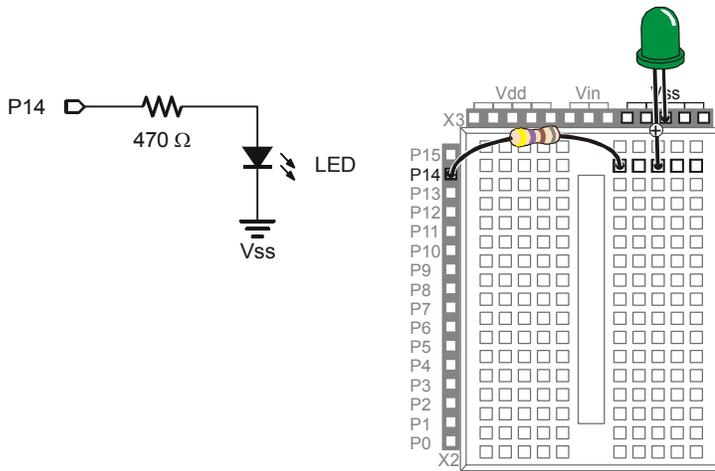

Figure 2-12
The LED circuit shown in Figure 2-12 is wired almost the same as the circuit in the previous exercise. The difference is that the resistor's lead that was manually switched between Vdd and Vss is now plugged into a BASIC Stamp I/O pin.
- √ Modify the circuit you were working with in Activity #1 so that it matches Figure 2-12.
Use the example circuit shown in Figure 2-12 on page 48.